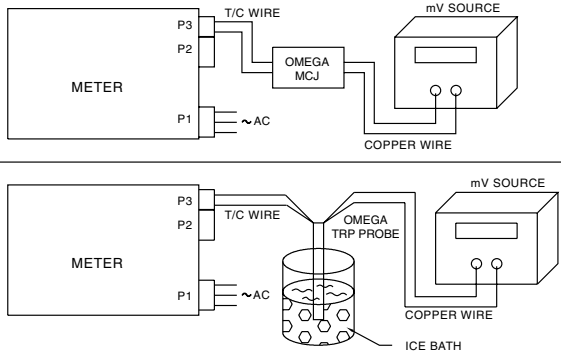

Figure 4-3. Calibration with a Millivolt Source
2. Connect the millivolt source to the MCJ Electronic Ice Point or ice bath which in turn connects to the thermocouple input connector P3 as shown in Figure 4-3. Connect the negative (red) thermocouple wire to connector P3, Pin 1. Connect the positive thermocouple wire to connector P3, Pin 2. Be sure to observe polarity and use the correct thermocouple wire (Type J wire for Type J meter).